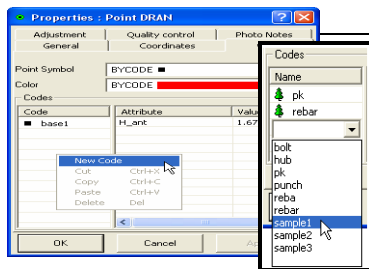

Figure 3-21. Add Code to Point
2. On the **CAD** tab, right-click in the left panel and select **Code**. Select the code from the dropdown list and click outside the cell (Figure 3-21).